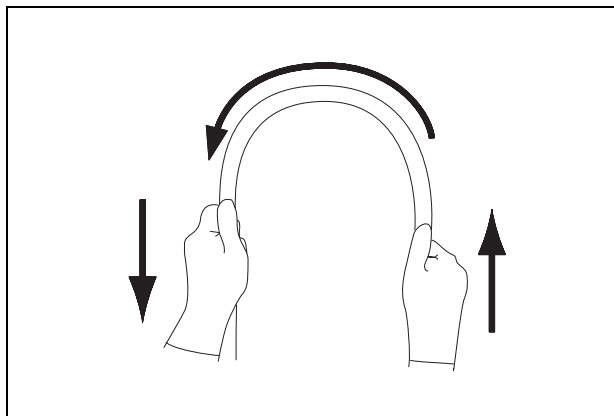

Figure 3.3
6. Using both hands, bend the insertion tube of the endoscope into a semicircle. Then, moving your hands as shown by the arrows in Figure 3.3, confirm that the entire insertion tube can be smoothly bent to form a semicircle and that the insertion tube is pliable.